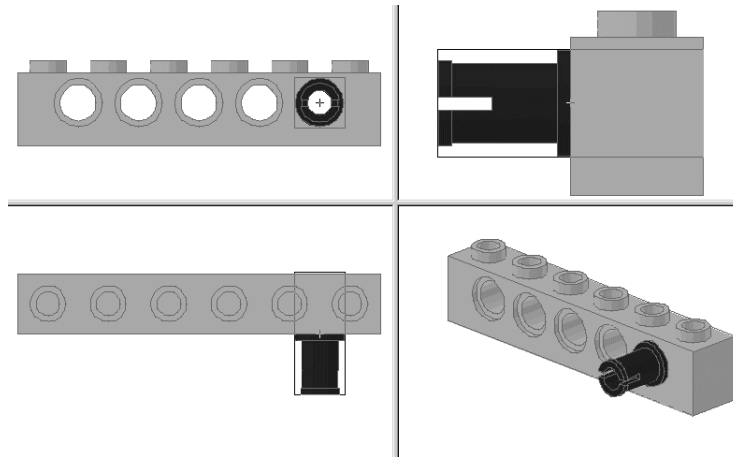

Figure 5-9: Pin alignment in a 1x6 Technic Brick.
2. Find the **Technic Pin** on the parts list and properly align it with the last hole on your brick (Figure 5-9).